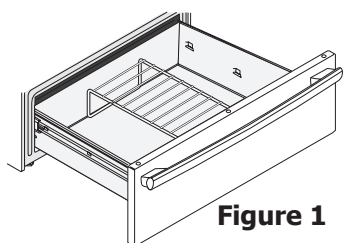

Figure 1
- In the **upright position** (Figure 1) to allow low profile food items to be placed both under and on top of the rack (for example, rolls or biscuits on top of the rack and a casserole dish underneath).